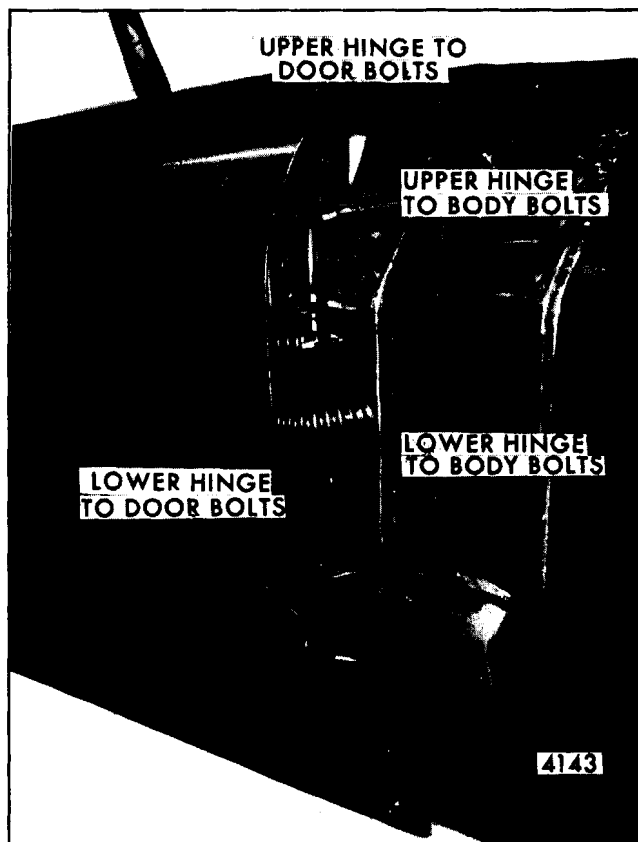

Fig. 6-47-Typical Front Door Hinge Attachment
3. With aid of a helper, support door in open position and remove upper and lower hinge to door hinge pillar attaching bolts (Figure 6-47).
1. Remove front door as previously described. Mark position of hinge on body hinge pillar and remove hinge to body hinge pillar attaching bolts (Figure 6-47).
2. Support door in the full-open position and remove hinge to door and body hinge pillar attaching bolts (Figure 6-47). Then, remove hinge from body.